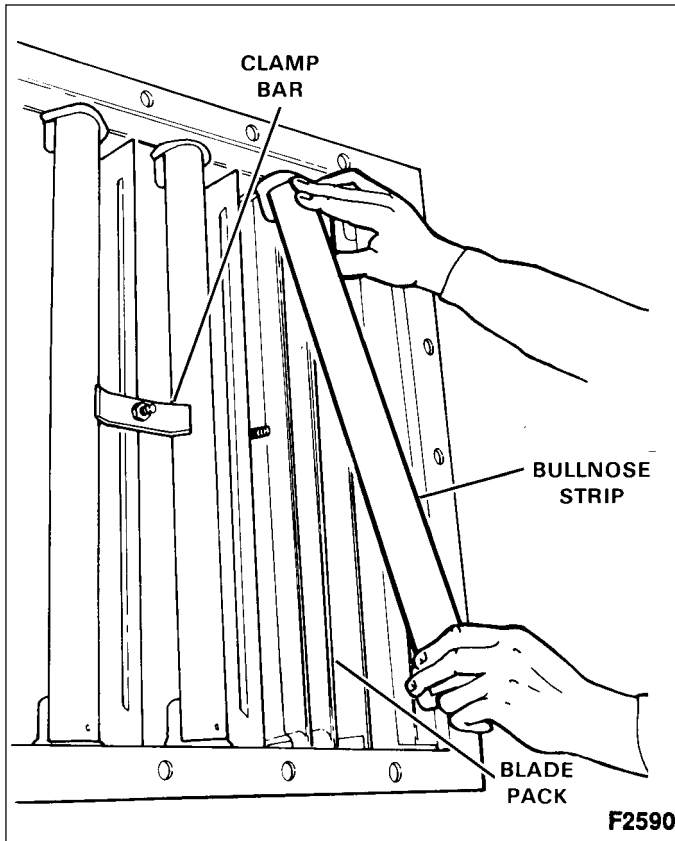

Figure 2-3. Removing Bull Nose Strip
2. Loosen the nuts which hold the blade pack clamp bars in place, then rotate the clamp bars 90° and remove the bullnose strips (see Figure 2-3).